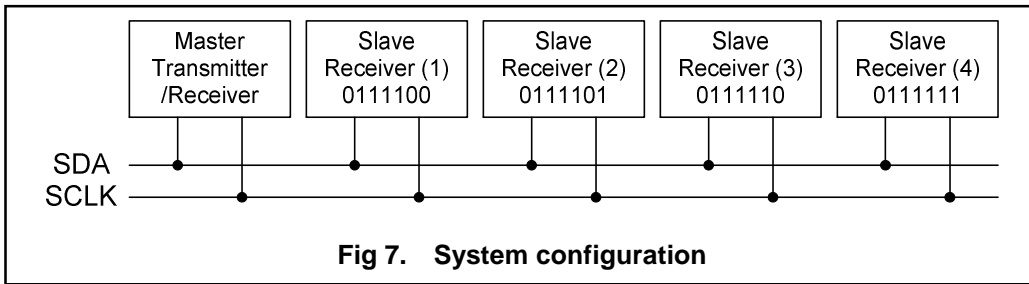

**Fig 6. Definition of START and STOP conditions**
Both SDA and SCLK lines remain HIGH when the bus is not busy. A HIGH-to-LOW transition of SDA, while SCLK is HIGH is defined as the START condition (S). A LOW-to-HIGH transition of SDA while SCLK is HIGH is defined as the STOP condition (P). The START and STOP conditions are illustrated in Fig 6.